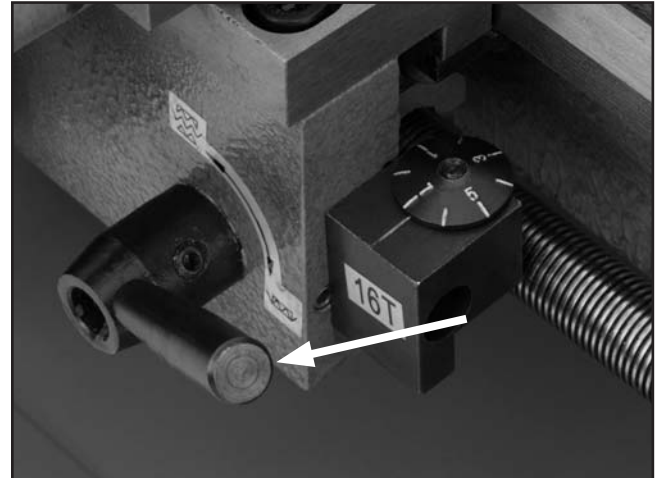

Figure 23. Feed lever.
5. Move the feed lever down to engage the half-nut, which in turn, makes the automatic carriage feed active (see **Figure 23**).